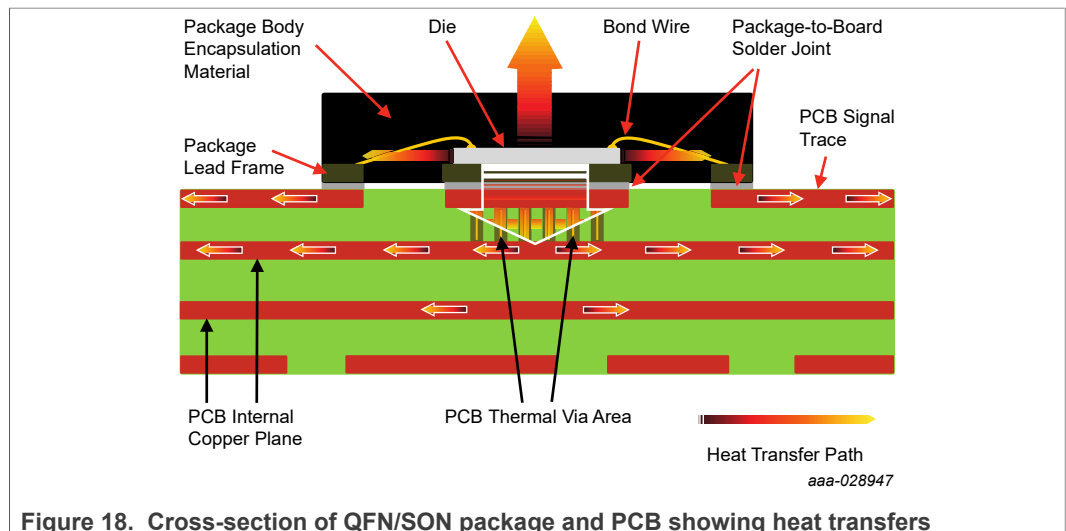

Figure 18. Cross-section of QFN/SON package and PCB showing heat transfers
QFN/SON packages with an exposed pad (EP) on the bottom, enhance the thermal and electrical performance of the package. The die is attached directly to the exposed pad thus providing an efficient heat removal path, as well as excellent electrical grounding to the PCB as shown in Figure 18. To further optimize thermal performance, the PCB design should include thermal vias and a thermal plane(s).